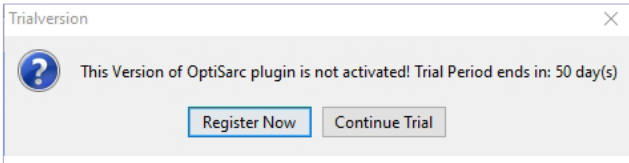

Fig. 16–Product activation is required
1. To register your product press *Register Now*. The *Product Registration and Activation* window opens (Fig. 16).